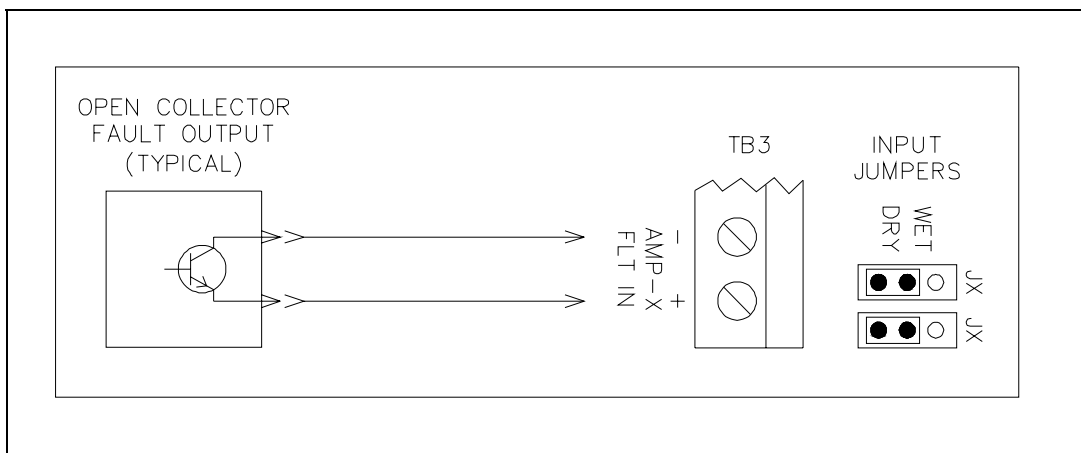

Figure 4. Open Collector Fault Connection
**OPEN COLLECTOR (ACTIVE LOW)** – requires the amplifier to provide an active low output (sinking to dc common) when operating in a healthy state, and the respective jumper clips to be set to the dry position. Connection of the amplifier's fault output has the input (common or emitter) side connected to the **+** (plus) terminal, and the output (collector) connected to the **-** (minus) terminal for proper operation. Refer to Figure 4 for a connection detail.